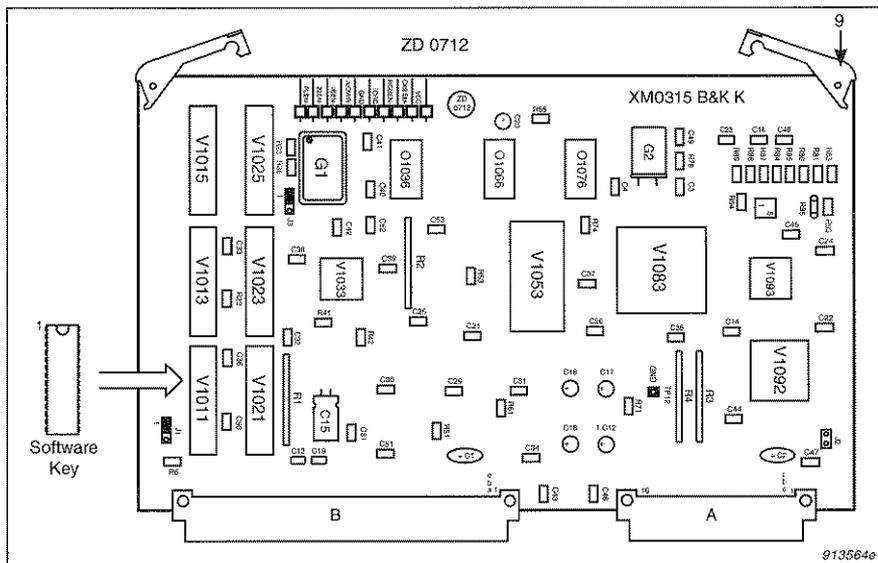

Fig.2.4 Position of software key on circuit board 9
7. Place the software key in one of the six sockets on the left-hand side of the circuit board as shown in Fig.2.4. Any free socket may be used.